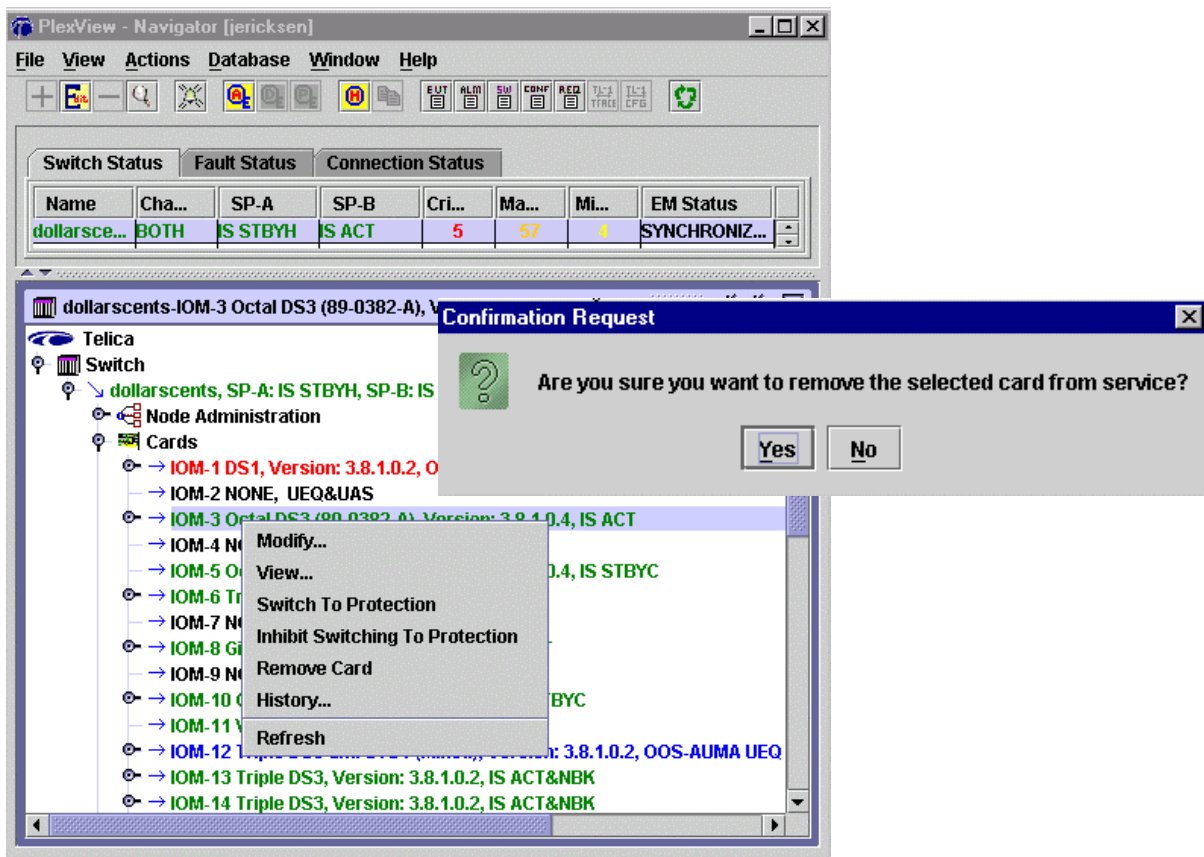

Figure 2. Removing a Module
19. Double-click the switch to select it for the main panel and then double-click *Cards*. Right-click the desired IOM and then select *Remove Card*. A confirmation screen will appear. Select *Yes* to remove the module. Refer to Figure 2.